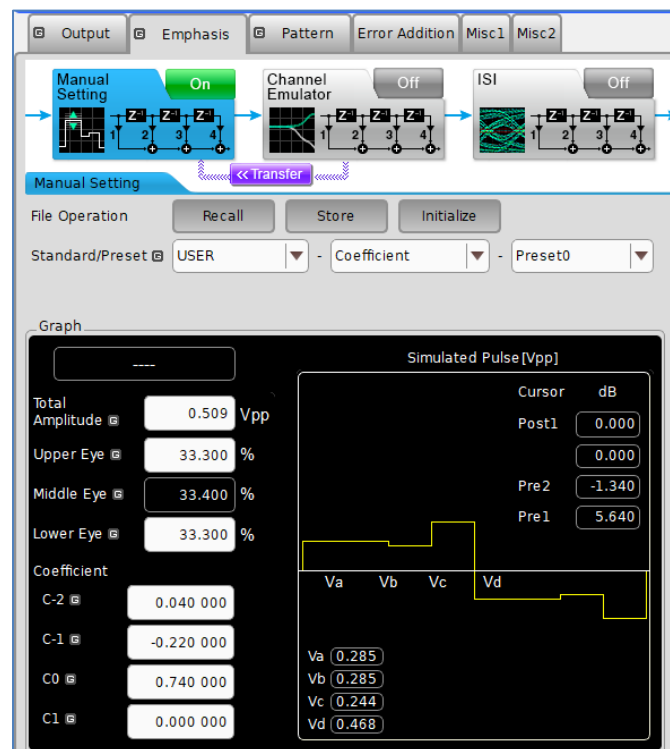

FIGURE 100. MU196020A (SLOT 1, VICTIM) EMPHASIS SETTINGS
- For the “Coefficient” settings, set the “C-2”, “C-1”, “C0” and “C1” values according to the COM calculation results for the “**TXLE_taps**” [C-3 C-2 C-1 C0 C1] information. Figure 100 below shows an example of the coefficient settings for TXLE_taps [0 0.04 -0.22 0.74 0].